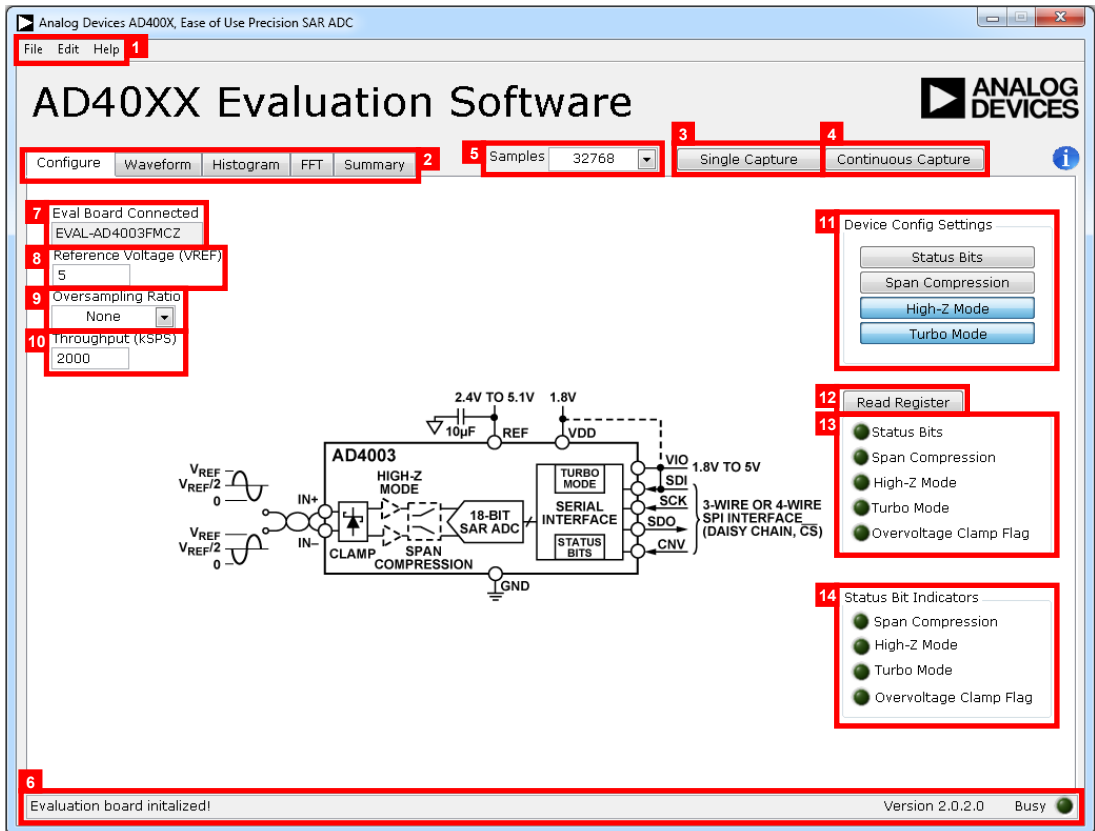
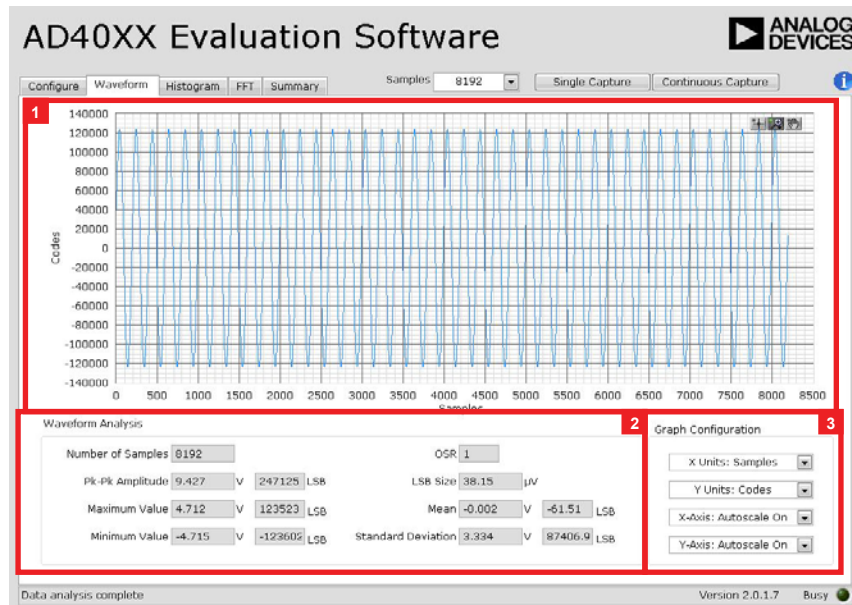

Figure 17. AD40XX Evaluation Software Front Panel (Configure Tab View)
Figure 19. Waveform Tab View
After the AD40XX Evaluation Software Installer initializes, the software front panel appears, and the software automatically connects to any `EVAL-AD400x-FMCZ` evaluation board connected to the PC. The detected evaluation board is displayed in the **Eval Board Connected** indicator on the front panel (see Label 7 in Figure 17).
The AD40XX Evaluation Software Installer front panel is shown in Figure 17. The following sections describe the various software controls accessible on the front panel.
The **File** menu (Label 1 in Figure 17) provides the following options:
The **Edit** (Label 1 in Figure 17) menu provides the following option:
The **Help** menu (Label 1 in Figure 17) provides the following options:
The following five tabs are located at the top of the front panel (Label 2 in Figure 17): **Configure**, **Waveform**, **Histogram**, **FFT**, and **Summary**. These tabs select various front panel views.
Click **Single Capture** (Label 3 in Figure 17) to perform a single set of conversions. The number of conversions performed is set with the **Samples** dropdown list, which is located to the left of the **Single Capture** control.
Click **Continuous Capture** (Label 4 in Figure 17) to perform repeated sets of conversions. The number of conversions performed per set is set with the **Samples** dropdown list.
The **Samples** dropdown list (Label 5 in Figure 17) sets the number of conversions that are performed when **Single Capture** is clicked. The button also sets the number of conversions per set when **Continuous Capture** is clicked.
The status bar (Label 6 in Figure 17) displays information about the current process being completed by the **AD40XX Evaluation Software Installer**. The **Status Bar** includes a **Busy** indicator, which displays if the software is busy performing a task such as performing conversions, analyzing results, and so on.
Figure 17 shows the **Configure** tab view. The **Configure** tab provides controls for configuring the connected **AD4000** family device and software settings. The **Configure** tab view contains the following controls and indicators:
- **Eval Board Connected** (Label 7 in Figure 17): indicates that the **EVAL-AD400x-FMCZ** board is connected to the software.
- **Reference Voltage (VREF)** (Label 8 in Figure 17): sets the VREF used in data analysis such as when calculating **LSB Size** (see Label 2 in Figure 19), or measured voltage in the waveform graph (see the **Waveform Tab View** section. This control must be set to match the VREF used on the connected **AD4000** family evaluation board.
- **Oversampling Ratio** (Label 9 in Figure 17): sets the oversampling ratio applied to the captured data. After this control is set to any value other than **None**, the software sums up the consecutive conversion results together to increase effective resolution. The number of conversions summed together is set by the **Oversampling Ratio** control.
- **Throughput (kSPS)** (Label 10 in Figure 17): sets the throughput of the connected **AD4000** family device. The maximum value of this control is automatically set to reflect the maximum achievable throughput of the connected device, given the state of the **Status Bits** and **Turbo Mode** controls. See the relevant **AD4000** family device data sheet for more information on maximum achievable throughput.
- **Device Config Settings** (Label 11 in Figure 17): configures the connected **AD4000** family device user configuration register settings. See the relevant **AD4000** family device data sheet for a detailed description of the user configuration register and the device features.
- **Read Register** (Label 12 in Figure 17): reads the **AD4000** family device user register. When **Read Register** is clicked, the contents of the connected **AD4000** family device register are read to update the **Device Config Settings** items accordingly.
- **Device configuration settings display** (Label 13 in Figure 17): displays the status of the user register when
- **Status Bits Indicators** (Label 14 in Figure 17): displays the configuration settings of the device as indicated by the status bits. The status bits are enabled with the **Status Bits** control in the **Device Config Settings** pane (Label 11 in Figure 17). The **Status Bits Indicators** are only updated after conversions are performed with the **Single Capture**
Figure 19 shows the **Waveform** tab view. The **Waveform** tab view shows the time domain representation of the conversion results from the connected **AD4000** family device, as well as several analysis items. The **Waveform** tab view contains the following controls and indicators:
- **Waveform graph** (Label 1 in Figure 19): displays the time domain plot of the most recently captured or loaded conversion results. The scale and range of the waveform graph can be set in the **Waveform Analysis** box by double clicking on the **Minimum Value** and **Maximum Value** fields and entering the desired values. The waveform graph also includes viewing tools that are described in Table 5.
- **Waveform Analysis** (Label 2 in Figure 19): shows the following analysis items for the currently displayed data.
- **Graph Configuration** pane (Label 3 in Figure 19): sets the following waveform graph axis properties.
- **Bin Width**: displays the size of the frequency bins in the FFT graph x-axis. The bin width is a function of both the **Throughput (kSPS)** control (Label 10 in Figure 17) and the number of samples in the captured data.